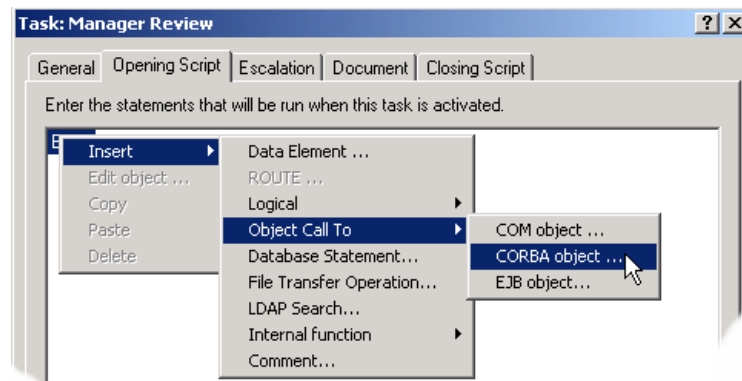

Figure 37-13. Closing script tab with CORBA Object being inserted into the CRbuilder process logic.
- ❶ Double-click on a task to open it, then click the **Closing** or **Opening** script.
- ❷ Right-click on the **Begin** statement, select **Insert, Calling External Objects**, then **CORBA Object** (see Figure 37-13, below).